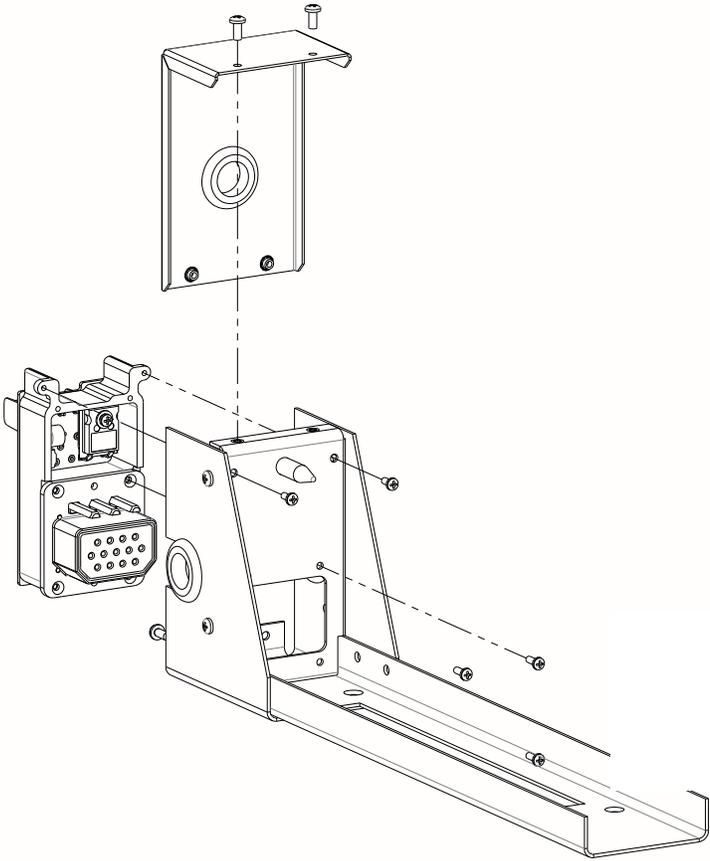

Figure 3.8
- C. If used, install the MD835 5V Module in the ¼ ATR rack according to MCI P/N 9017201 drawing. See Figure 3.8.